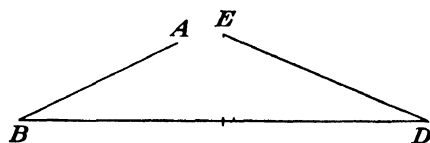

Fig. 127.
1. With the help of a protractor draw $\angle ABD$ and $\angle EDB$ (Fig. 127) in your notebook. (a) Construct an angle equal to $\angle ABD$. (b) Construct an angle equal to $\angle EDB$.